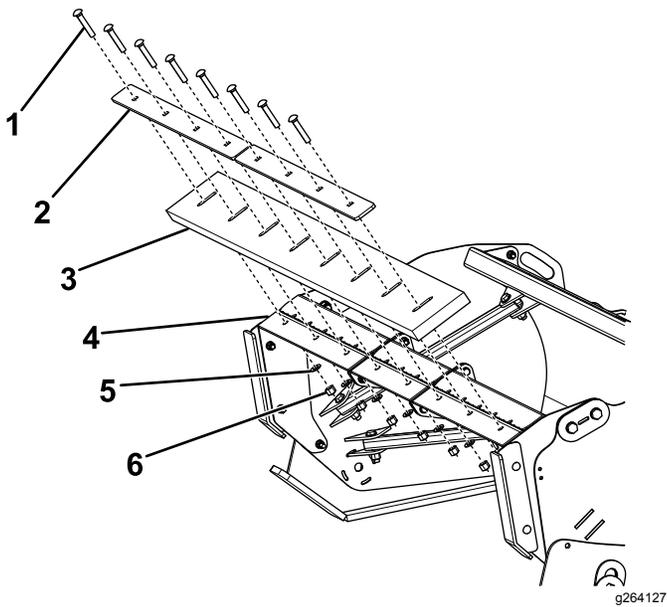

Figure 6
- Secure the cutting edge to the blade sections using the following (Figure 6):